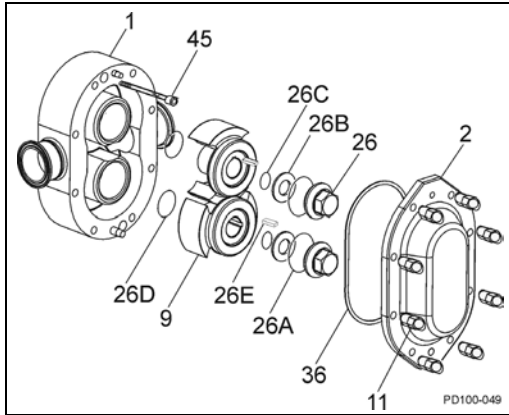
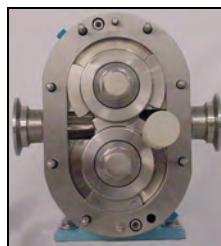
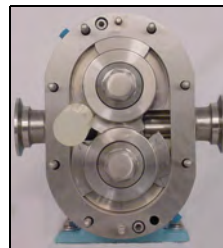

Figure 68 - Exploded View of Fluid Head
Figure 70 - Tightening Bottom Rotor
Figure 71 - Tightening Top Rotor
2. Install body (Figure 68, item 1) to gear case assembly aligning body with body studs. Avoid damaging seals as body is drawn over shafts.
3. Secure body to gear case using two cap screws (Figure 68, item 45).
1. Lubricate o-rings (Figure 68, item 26A and 26D) with lubrication compound compatible with o-ring material and process fluid(s).
2. Install new rotor hub o-rings (item 26D) into groove on rotors hubs.
3. Install rotors (item 9) onto shafts.
4. Align keyways in rotors with keyways on shafts and install keys (item 26E).
1. Install belleville washer (Figure 68, item 26B) into rotor nut with outer raised side of washer toward rotor nut.
2. Place retainer o-ring (item 26C) into rotor nut to retain belleville washer. Washer should not be tight against o-ring.
3. Lubricate new rotor nut o-ring (item 26A) with lubrication compound compatible with o-ring material and process fluid(s). If o-ring is not lubricated it will pucker when tightening rotor nut.
6. Use blocking dowel (Figure 69) to prevent rotors from turning during installation. See “Blocking Dowels” on page 22 for rotor blocking dowel size. Always use dowel to block rotor against body, not against other rotor. See Figure 70 and Figure 71.
7. Screw rotor nuts (Figure 68, item 26) onto shafts (clockwise) and tighten to required torque.
1. Clean cover o-ring (Figure 68, item 36) and install in groove in cover.
3. Install cover (Figure 68, item 2) on pump body.
5. Tighten cover securely using cover nuts (Figure 68, item 11).